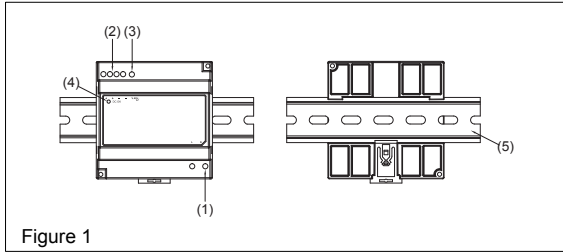

Figure 1
2. Device description (Fig. 1)
5.1. Input connection (Fig. 1 (1), Fig. 5)
Use L and N connections of input terminal connector (see Fig. 1 (1)) to establish the 100-240 VAC connection.
5.2. Output connection (Fig. 1 (2))
The output voltage can be adjusted from 22 to 24VDC on the potentiometer. The green LED DC OK displays correct function of the output (Fig. 1 (4)). The device has a short circuit and overload protection and an over voltage protection limited to < 34.8 VDC